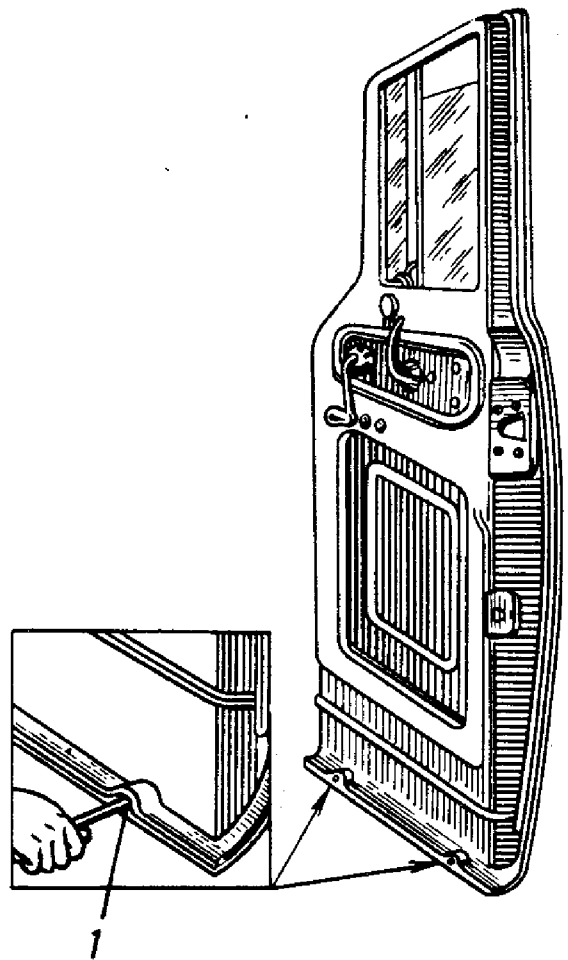

FIG.36. CLEANING METHOD FOR DRAIN HOLE S 1 IN CAB DOORS
2. Clean the drain holes in the cab doors (Fig.36).